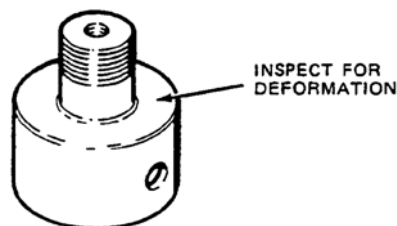

Figure 3-3. Tube Plug Inspection (Optional Multipiece Sealing Assembly)
- inspect the tube cover as shown in Figure 3-3;